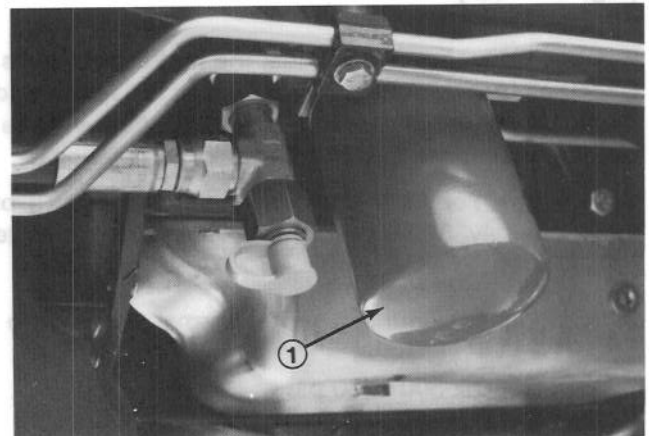

Figure 48
2. Clean area around filter mounting area (Fig. 48). Place drain pan under filter and remove filter.